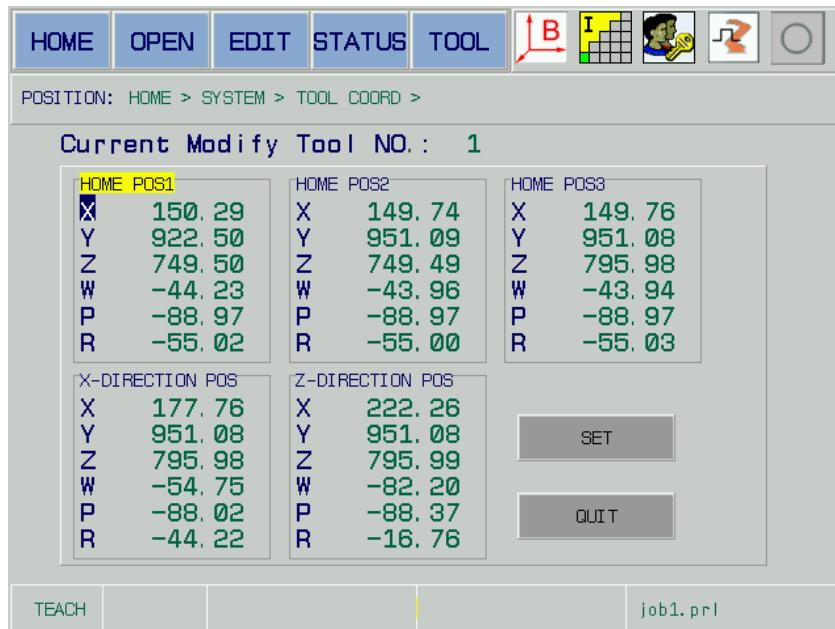

Fig. 8-5
**Step three:** If the wrong point-capture occurs during its operation procedure, try it again; refer to the Fig. 8-5: